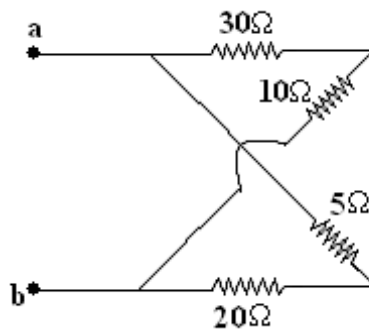

Figure 1b
- (b) Find the voltage needed across terminals a-b shown in the figure 1b so that the drop across the 10Ω resistor is 30V. Also find the corresponding voltage drop across the 5Ω resistor. [8+8]